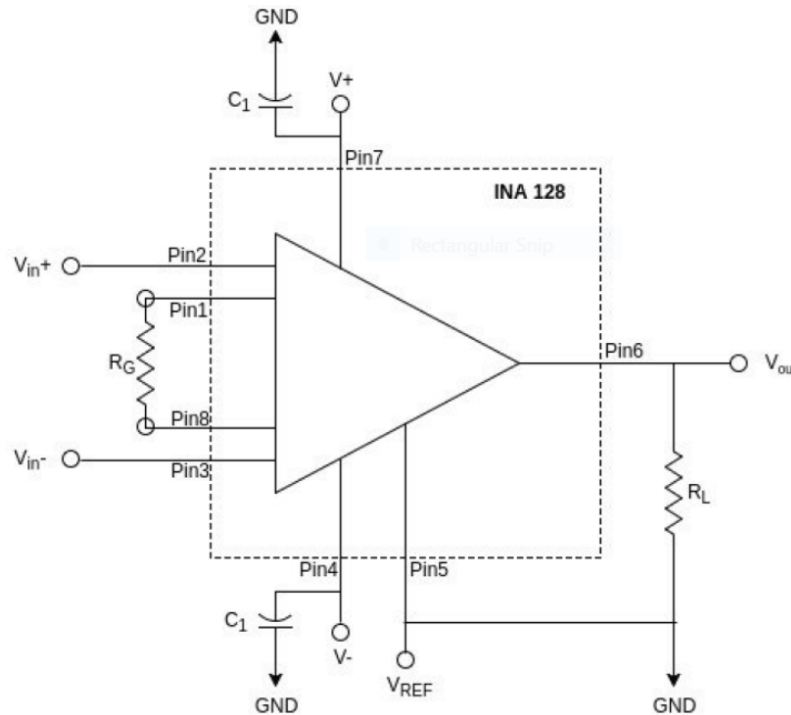

Figure 1: Pin diagram of INA128
- Using  $R_G = 220\Omega$ ,  $R_L = 10k\Omega$ ,  $C_1 = 0.1\mu F$ ,  $V_+ = 12V$ , and  $V_- = -12V$ , wire up the instrumentation amplifier circuit. Refer to figure 1. Explain the purpose of capacitor  $C_1$  connected in parallel with the power supply. Note polarity of  $C_1$  and connect accordingly.